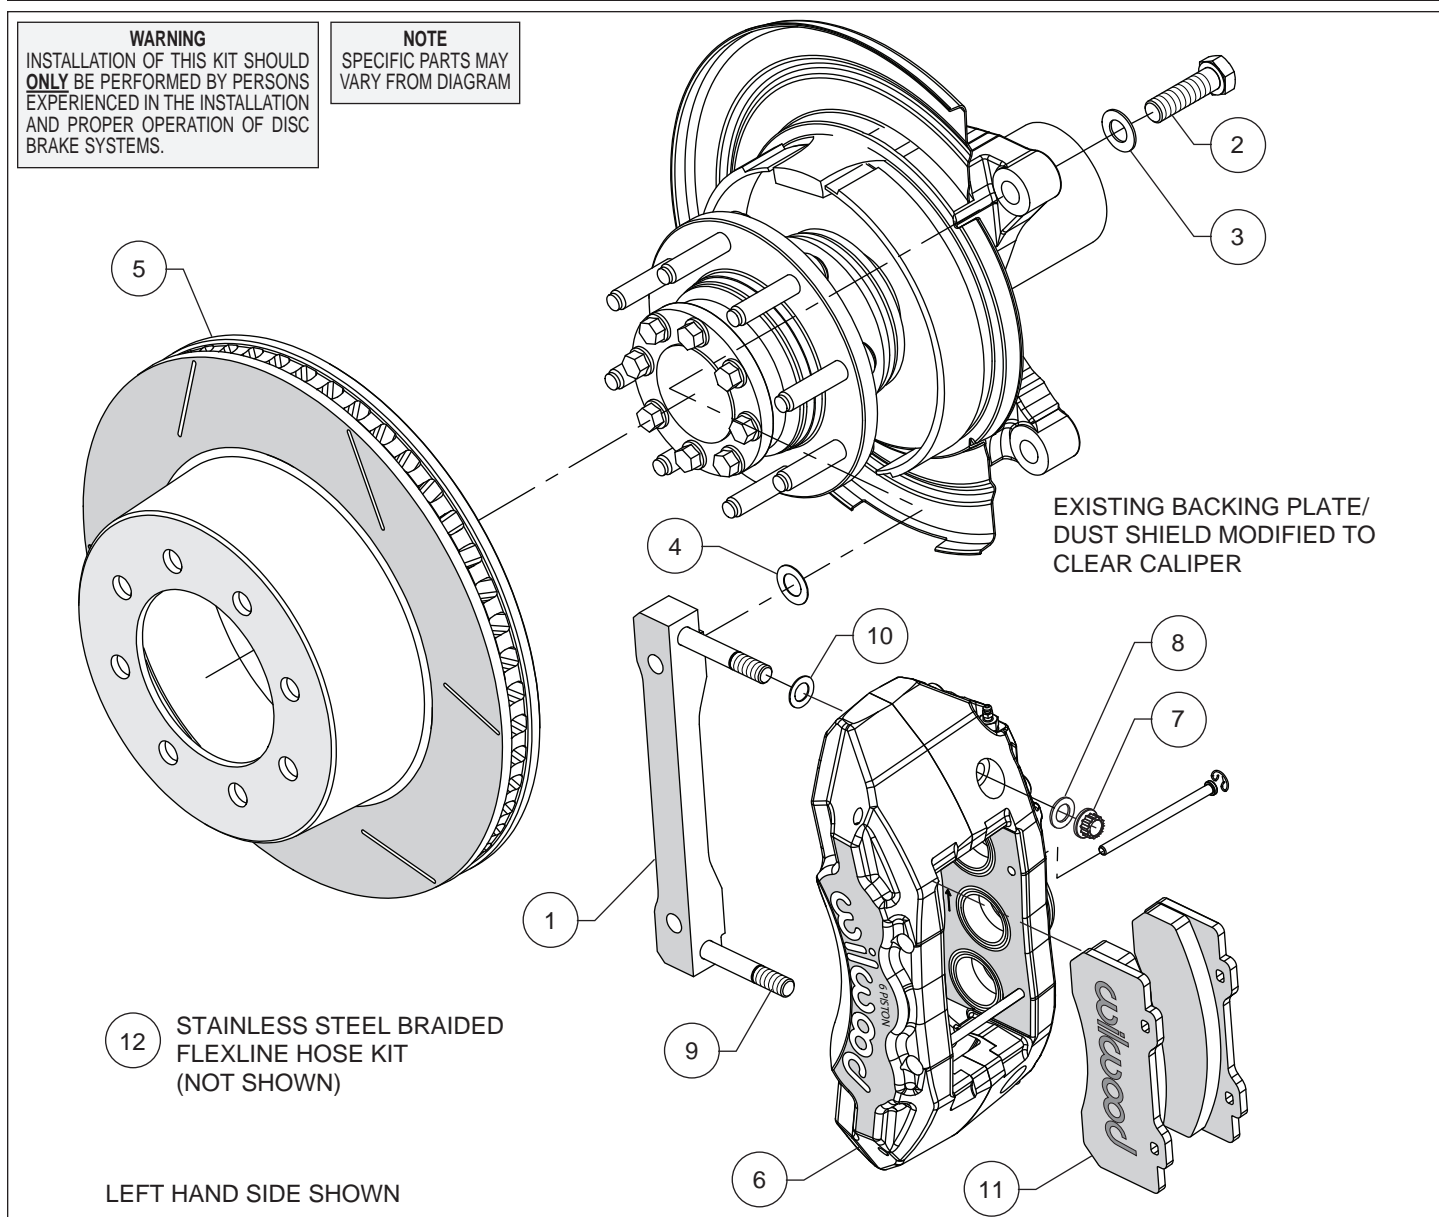
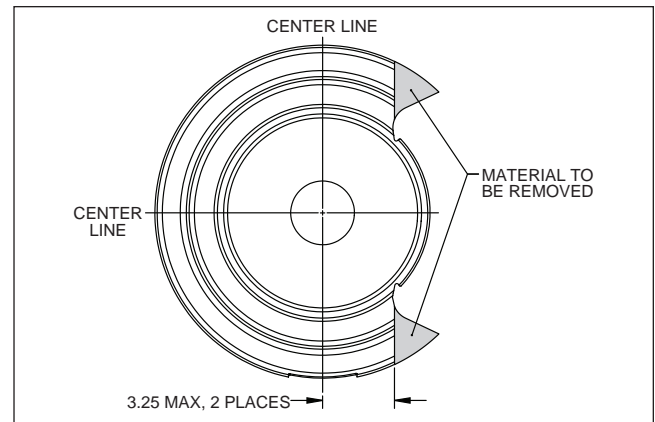

Figure 1. Typical Installation Configuration
Figure 3. Backing Plate / Dust Shield Modifications
- The rear backing plate/dust shield needs to be modified as shown in Figure 3 to clear the new Wilwood caliper mounting bracket (1). **NOTE:** It is recommended that the backing plate be removed before modification, and the modifications be performed by a qualified machine shop. After backing plate removal, cut the dust shield 3.25" maximum from the vertical center line as shown in Figure 3. Temporarily mount the caliper mounting bracket as shown in Figure 1. Examine the fit of the bracket against the OE caliper mounting tabs and verify that the bracket mounts flush.
Assembly Instructions (numbers in parenthesis refer to the parts list and Figure 1 on the preceding pages):
- The caliper mount bracket (1) should initially be installed with clean, dry threads on the mounting bolts. Orient the bracket as shown in Figure 1 and Photo 1, and install using bolts (2) and washers (3). Initially place one .024 thick shim (4) on each bolt between the bracket and upright, Figure 1. Temporarily tighten the mounting bolts. **NOTE:** The bracket must fit squarely against the mount bosses on the upright. Inspect for interference from casting irregularities, machining ridges, burrs, etc. Later, after the caliper alignment has been checked, the mount bolts will be secured using red *Loctite*® 271.
- Slide the hat/rotor (5) onto the axle hub. **NOTE:** The hat must fit flush against the axle hub flange or excessive rotor run out may result. Install three lug nuts (finger tight) to keep the hat/rotor assembly in place while continuing with the installation.
- NOTE:** This kit contains distinct right and left hand calipers that must be mounted in a specific direction, as described below. Lubricate the caliper mounting studs (9) with lightweight oil. Initially place one .032" thick shim (10) on each stud as shown in Figure 1 and Photo 2. Mount the caliper (6) onto the bracket (1) using lock nuts (7) and washers (8), Figure 1. Ensure that the caliper is mounted so that the largest pistons are at the rotor exit end of the caliper, in relation to the direction of rotor rotation. Temporarily tighten the lock nuts and view the rotor through the top opening of the caliper. The rotor should be centered in the caliper, Photo 3. If not, adjust by adding or subtracting shims (4) between the bracket and the upright. Always use the same amount of shims on each of the two mounting bolts. Once the caliper alignment is correct, remove the bracket mounting bolts (2) one at a time, apply red *Loctite*® 271 to the threads, and torque to 120 ft-lb.